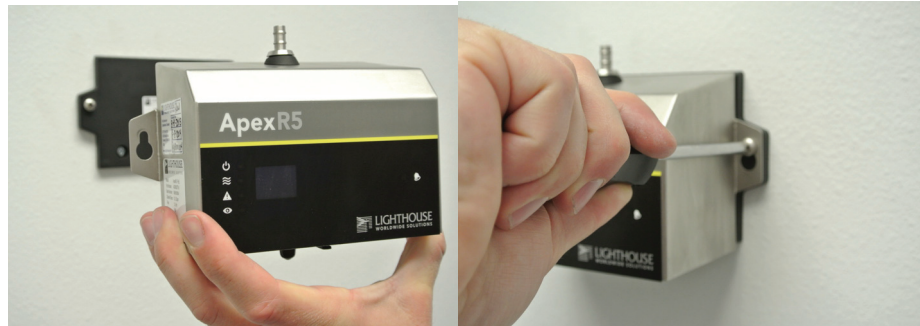

Figure 7-5 Attach ApexRemote to SmartBracket
7. Attach the **ApexRemote** to the **SmartBracket** by slipping it over the mounting screws provided and sliding it downward on the Bracket. Tighten the two screws. See Figure 7-5.